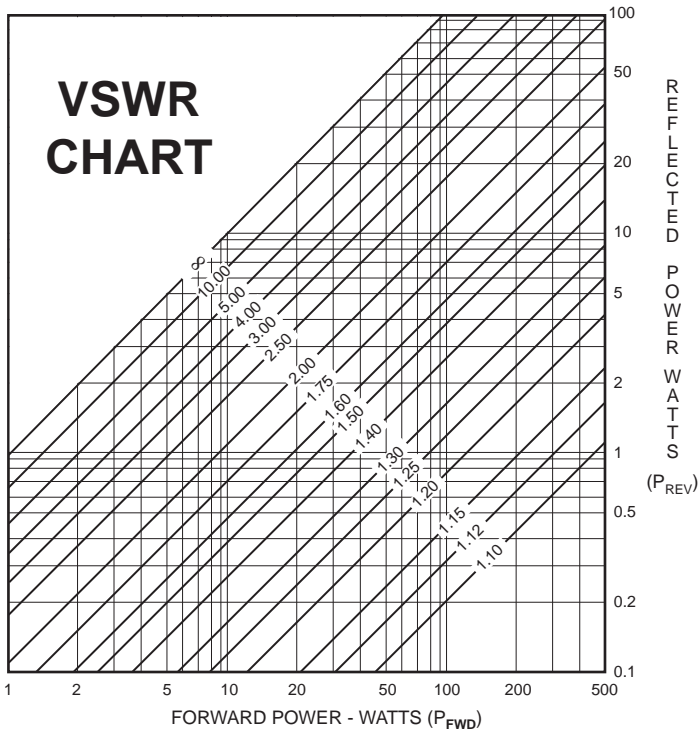

Figure 7-1: VSWR Chart
2.	Refer to the VSWR Chart on the rear of the instrument or Figure 7-1. Apply the readings from Step 1 to the chart.
6.04 Adjustments to the instrument should be performed by Telewave, or other RF calibration laboratory. Calibration or adjustment should be made at a frequency of 467 MHz when possible. If it is necessary to perform calibration below 150 MHz, consult Figure 7-1 for the correction factor. The adjustment potentiometers are located on the main PC board inside the instrument. Refer to Figure 3-1 and 6-1.
- 7.02** Figure 7-1 (below) shows a nomograph for estimating VSWR from the measured incident and reflected power. See 5.05 for calculation procedures.